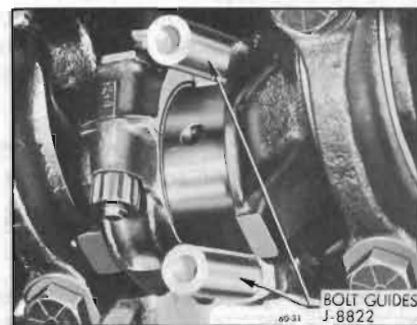

Figure 60-31—Connecting Rod Bolt Guides Installed
4. Remove cap and bearing shell from #1 connecting rod. Install connecting rod bolt guides on the bolts to hold the upper half of the bearing shell in place. See Figure 60-31.